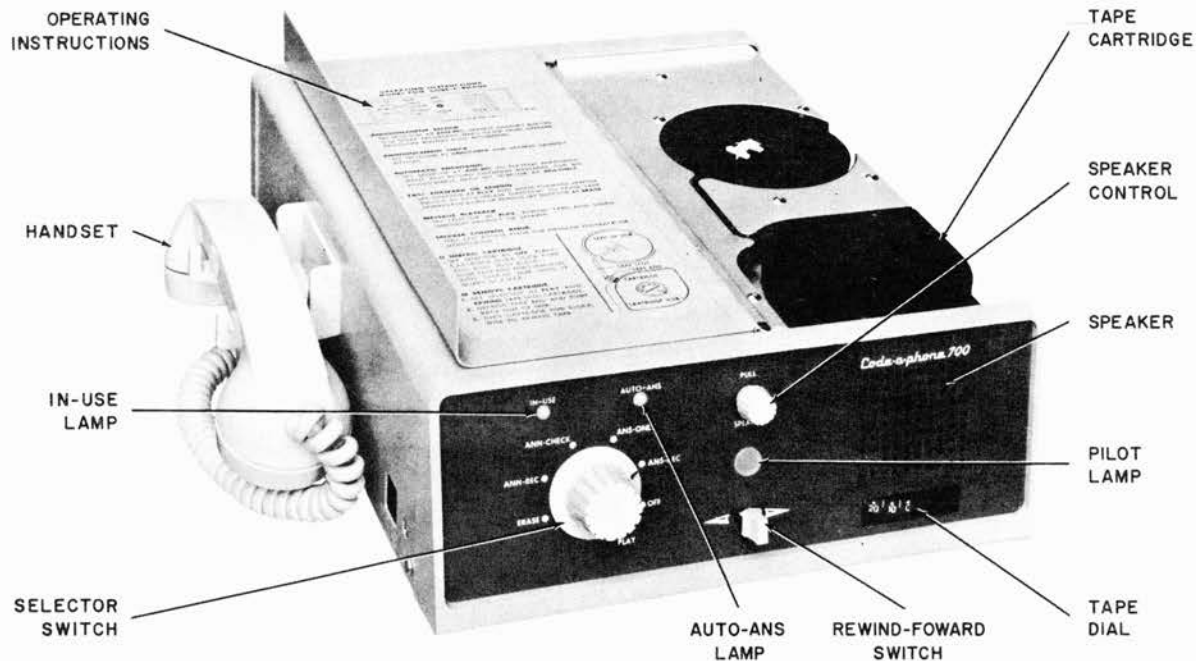

FIGURE 1 MODEL 700 FRONT VIEW
A maximum of two hours of telephone messages may be recorded onto the Tape Cartridge (fig. 1). This maximum may be reduced to one hour as follows:
- b. Rotate Selector Switch to PLAY (fig. 1).
1. Referring to the OPERATING INSTRUCTIONS on page 5, record a test announcement. Verify that the Pilot Lamp and In-Use Lamp work properly (fig. 1).